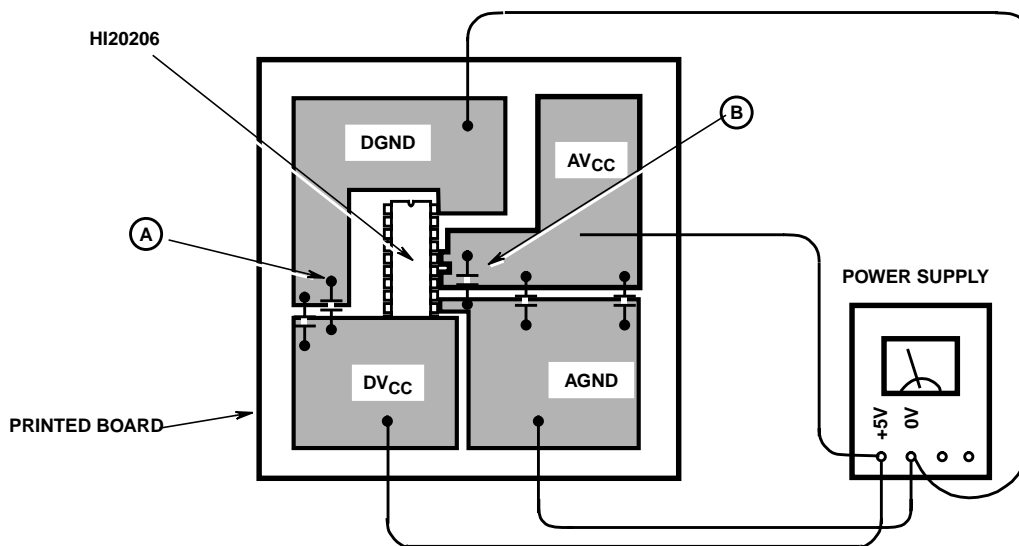

FIGURE 11.
- Insert in parallel a 47 μ F tantalum capacitor and a 100pF ceramic capacitor between the V_{CC} surface on the printed board and the nearest ground surface. (A of diagram below). It is also desirable to insert the above between the V_{CC} surface near the pin of the IC and the ground surface (see Figure 11). They are bypass capacitors to prevent bad effects from occurring to the characteristics when the power supply voltage fluctuates due to the clock, etc.